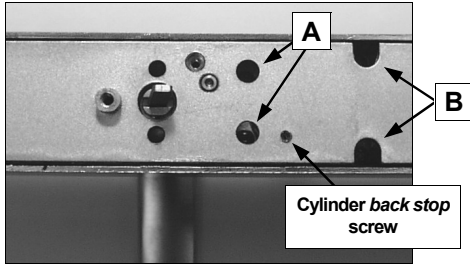

Fig. 1: Install Cylinder if not already installed at the factory
1. **Install Cylinder if not already installed at the factory.** Screws A & B (see Fig. 1) are correctly set at factory. If it is difficult to screw in the cylinder, loosen the two screws near the actuator (A) one turn. If you find the cylinder is still difficult to screw in, then loosen the other screws (B) one turn. **Do not loosen the screws all the way or it may be difficult to replace them properly!** **Note:** The trim is manufactured to use a 1-1/8" or 1/4" *Alarm Lock* mortise cylinder with a HW-1302 cam. If the cylinder that will be used is longer than 1 1/4", a collar must be utilized. Please see the collar information on the previous page.